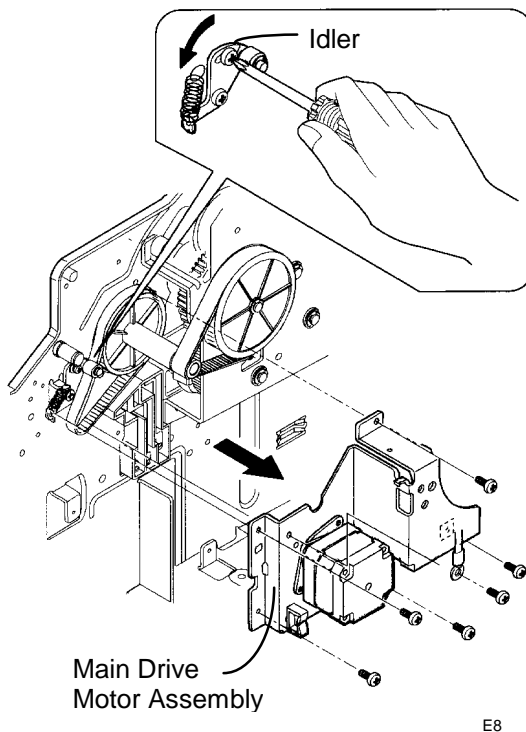

Figure 1. Removing the Main Drive Motor Assembly
2. (Figure 1): Loosen the Idler, if required.